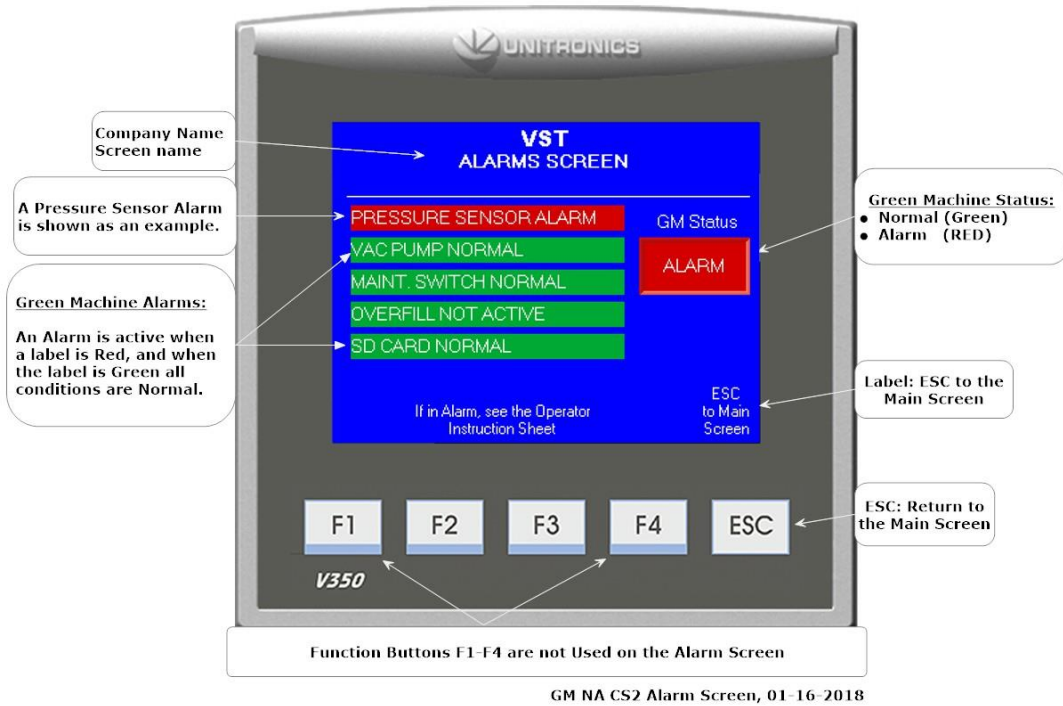

Figure 10-3: Faults & Alarm Screen
- See **Figure 10-3** for the Alarm Screen.